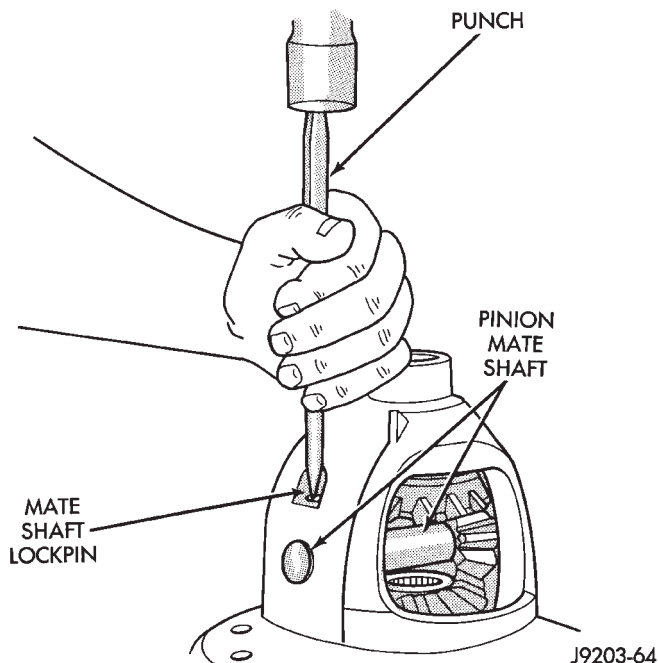

Fig. 35 Pinion Mate Shaft Roll-Pin Installation
(1) Install the differential side gears and thrust washers.
(2) Install the pinion mate gears and thrust washers.
(3) Install the pinion gear mate shaft.
(4) Align the hole in the pinion gear mate shaft with the hole in the differential case.
(5) Install and seat the pinion mate shaft roll-pin in the differential case and mate shaft with a punch and hammer (Fig. 35). Peen the edge of the roll-pin hole in the differential case slightly in two places, 180° apart.
(6) Lubricate all differential components with hypoid gear lubricant.